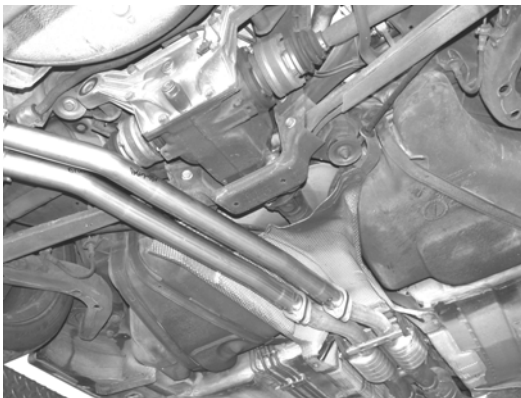

Figure 3
1. Using the original hardware, place both left and right front pipe assemblies into position as shown in figure 3 and secure the flanges hand tight.